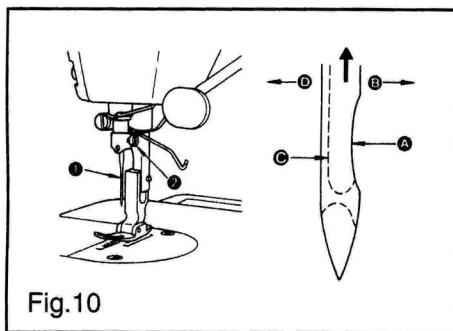

Fig.10
7. Attaching the needle (Fig.10)